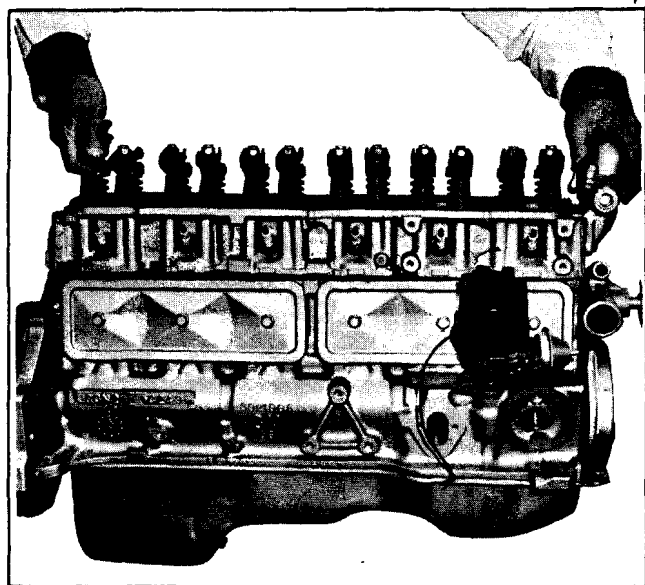

Fig. 6-28 Installing Cylinder Head
2. Carefully guide cylinder head into place over dowel pins and gasket (Fig. 6-28).